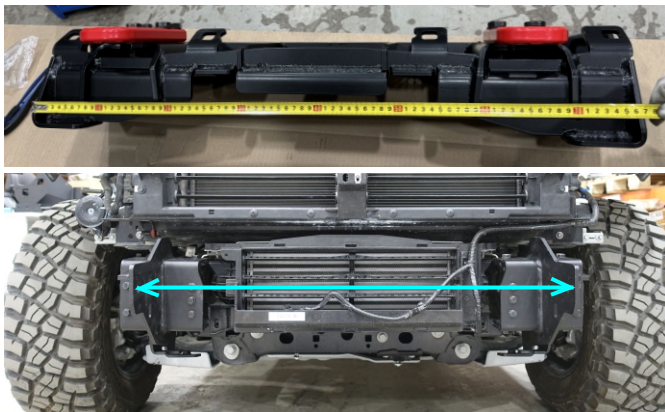

Fig.32
32. Measure the length of winch bracket (item 13). Set up the brackets according to (measured distance + 2 mm) (fig.32).